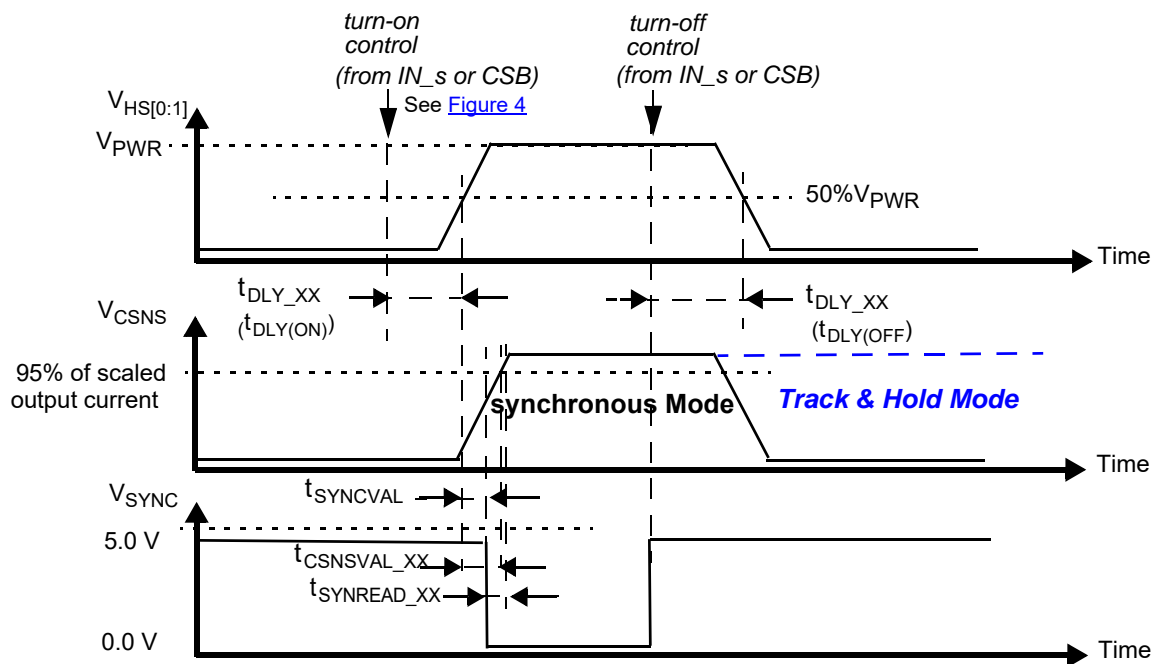

Figure 9. Synchronous and Track-and-Hold current sensing modes: associated delay and settling times
30. Time required to switch off the channel after detection of overtemperature (OT), overcurrent (OC), SC or UV error (time measured between start of the negative edge on the FSB pin and the falling edge on the output voltage until $V(\text{HS}[0:1]) = 50\%$ of V_{PWR}).
31. Settling time ($= t_{CSNSVAL_XX}$), SYNC output signal delay ($= t_{SYNCVAL_XX}$) and Read-out delay ($= t_{SYNREAD_XX}$) are defined for a stepped load current using a $10\text{ }\Omega$ resistive load for $\text{CSNS_RATIO}_s = 0$. (see Figure 9 and Output current monitoring \(CSNS\)).
The CS pin allows independent current monitoring of channel 0 or channel 1 up to the steady state overcurrent threshold. It can also be used to sense the device temperature. The different functions are selected by setting bits CSNS1_en and CSNS0_en to the appropriate value (Table 23). When the CSNS pin is sensed during switch-off in the (optional) track & hold mode (see Figure 9), it outputs the scaled value of the load current as it was just before turn-Off. When several devices share the same pull-down resistor, the CSNS pins of devices the current of which is not monitored must be tri-stated. This is accomplished by setting CSNS0_en = 0 and CSNS1_en = 0 in the GCR register (Table 10). Settling time ($t_{CSNSVAL_XX}$) is defined as the time between the instant at the middle of the output voltage's rising edge ($HS[0:1] = 50\%$ of V_{PWR}), and the instant at which the voltage on the CSNS-pin has settled to $\pm 5.0\%$ of its final value. Anytime an overcurrent window is active, the CSNS pin is disabled (see Overcurrent detection on resistive and inductive loads). The current and temperature sensing functions are unavailable in Fail-safe mode and in Normal mode when operating without the V_{DD} supply voltage. In order to generate a voltage output, a pull-down resistor is required ($R(CSNS)=1.0\text{ k}\Omega$ typ. and $470 < R(CSNS) < 10\text{ k}$). When the current sense resistor connected to the CSNS pin is disconnected, the CSNS voltage is clamped to $V_{CL(CSNS)}$. The CSNS pin can source currents up to about 5.6 mA.
To synchronize current sensing with an external process, the SYNC signal can be connected to a digital input of an external MCU. SYNC is asserted logic low when the current sense signal is accurate and ready to be read. The current sense signal on the CSNS pin has the specified accuracy $t_{SYNCREAD_XX}$ seconds after the falling edge on the SYNC pin (Figure 9) and remains valid until a rising edge is generated. The rising edge that is generated by the SYNC pin at the turn-OFF instant (internal or external) may also be used to implement synchronization with the external MCU. Parameter $t_{SYNCVAL_XX}$ is defined as the time between the instant at the middle of the output-voltage rising edge ($HS[0:1] = 50\%$ of V_{PWR}), and the instant at which the voltage on the SYNC-pin drops below 0.4 V (V_{SOL}). The SYNC pins of different devices can be connected together to save μ -controller input channels. However, in this configuration, the CSNS function of only one device should be active at a time. Otherwise, the MCU does not determine the origin of the SYNC signal. The SYNC pin is open drain and requires an external pull-up resistor to VDD.